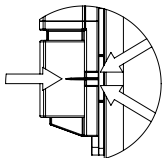

Figure 7
2. Position the vertical alignment mark on the keeper assembly between the two outer marks on the latch body (Figure 7). The ideal location is closer to the top mark.